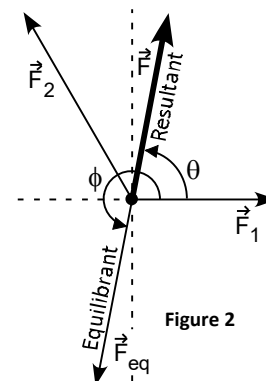

Figure 2
You will set up the vectors to be added on the force table (Figure 2): \vec{F}_1 is 100g at 0° , and \vec{F}_2 is 150g at 120° . Note that the units of “force” are left in *grams*; this will simplify your calculations and measurements. It is not necessary to convert to Newtons!
- Attach two pulleys to represent the forces to be added, \vec{F}_1 and \vec{F}_2 with their direction as indicated in Figure 2. The third pulley will represent the *equilibrant*, used to balance the other two forces, so its position can be set approximately for now. *Do not over tighten the pulley clamps!*